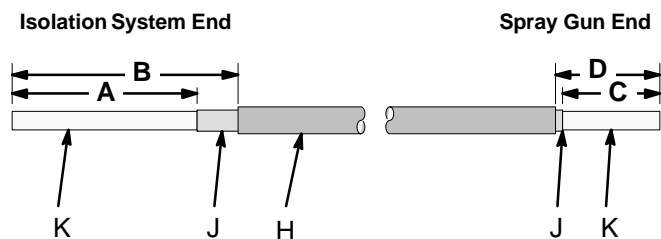

Fig. 29
Damaged hoses or hoses that have a “pin-hole” dielectric failure, close to the end of the hose, can be repaired by cutting away the failed portion and restripping the hoses to the dimensions shown in Fig. 29.
4. Cut off the damaged end of the hose. If the hose has a pin-hole failure, strip back the outer hose jacket (H) and the conductive layer (J) about 12 inches (105 mm) on each hose end. Look for the failure point, which will be a very small pin-hole, discolored due to arcing. Continue stripping back the hose until the failure point is found.
5. Carefully cut through the outer hose jacket (H) and peel it back about 12 inches (105 mm). **Do not** cut into the conductive layer (J) of the hose.
6. Cut through the first 1/2 inch (12.7 mm) of the conductive hose layer (J) to create an edge to hold onto. Peel back the conductive hose layer by unwrapping it in a spiral pattern. Cut it off at the dimension shown in Fig. 29.
7. Cut off the inner hose layer (K) to the dimension shown in Fig. 29.
8. Inspect the hose for any nicks or cuts. Any nicks or cuts into the inner hose layer (K) will weaken the dielectric strength of the hose and shorten the service life. Repeat the above procedure if any damage is found.